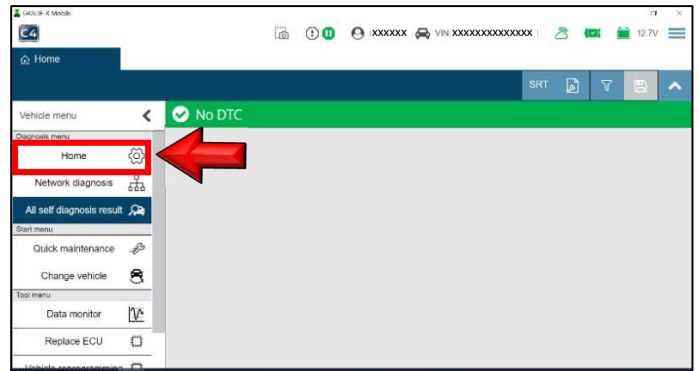

Figure 22
23. Verify all DTCs have erased, select **Home**. (Figure 22)